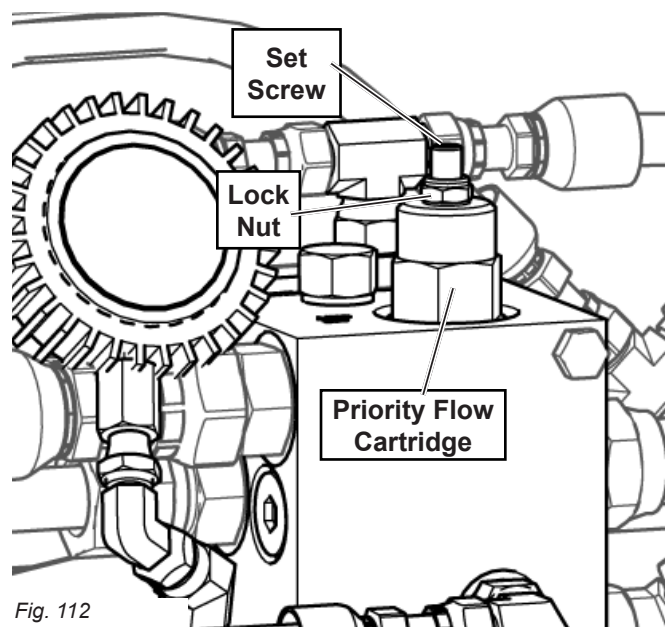

Fig. 112
Draper and reel speed is controlled via the switch box in the windrower cab. The maximum speed that can be achieved via the controls in the windrower is restricted by the priority flow cartridge on top of the hydraulic manifold located on the center rear of the swather as shown in Fig. 112. The maximum speed is preset in the factory and should only be adjusted if instructed to do so by the manufacturer or dealer.
1. Locate the priority flow cartridge on the top of the manifold block-“A508 269” Port (see Fig. 112).